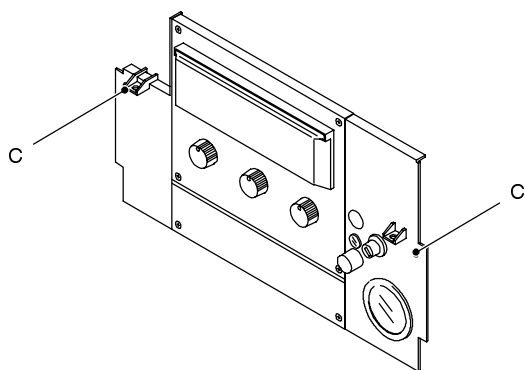

fig. 6
- 2 Remove the two screws C (fig. 6) and lower the instrument panel.